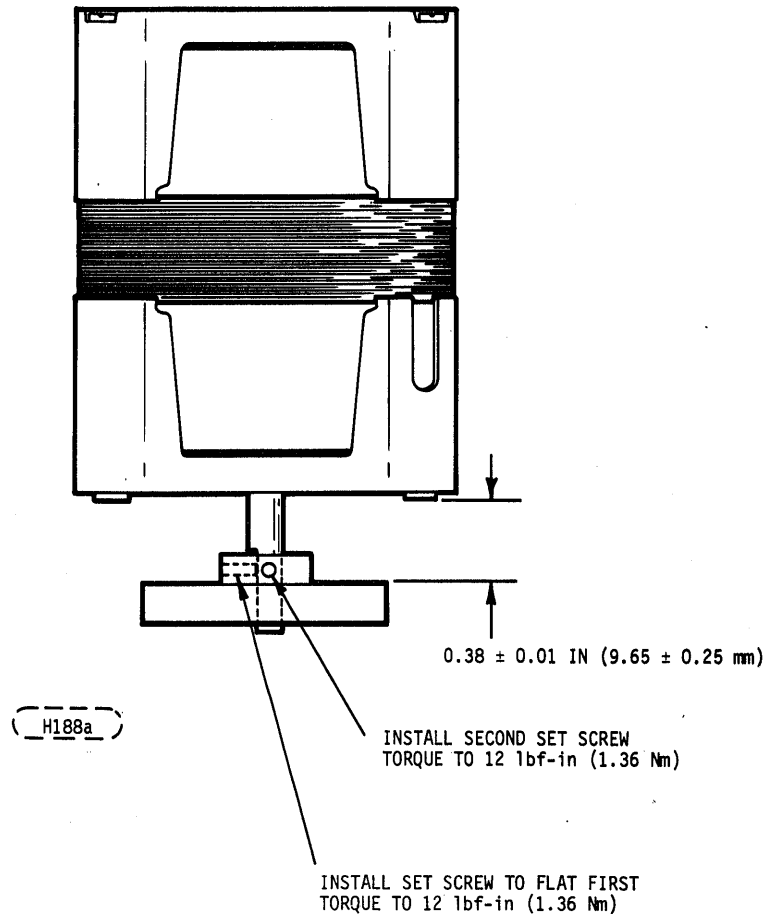

FIGURE 6-5. PULLEY POSITION DIMENSIONS
3. Install new pulley per Figure 6.5. Position pulley 0.380 ± 0.010 in (9.65 ± 0.25 mm) from motor mounting face as shown. Install set screw against flat on shaft first and torque to 12 lbf-in (1.36 Nm). Install second set screw and torque to 12 lbf-in (1.36 Nm).